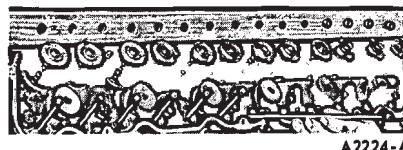

FIG. 13—Valve Push Rod Removal
10. Remove the valve rocker arm shaft assembly. Remove the valve push rods in sequence (Fig. 13).